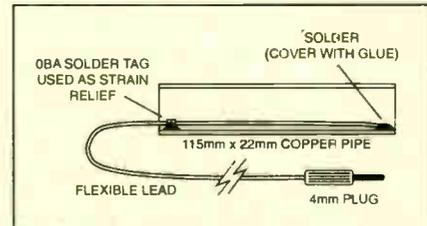

Fig.5. Suggested electrode construction.
Many constructors will already have the components to hand and will be able to put this circuit together very easily if they wish to simply try the idea. The handheld electrodes can be made from 22mm copper plumbing pipe. The method used by the author is shown in Fig.5. The connecting wire is soldered to the inside of each pipe and an OBA solder tag soldered inside at the other end is used for strain relief. Some glue spread over the solder connections prevents corrosion.
- www.zapperplans.com/plans.html (circuit of Fig.5, how to construct).